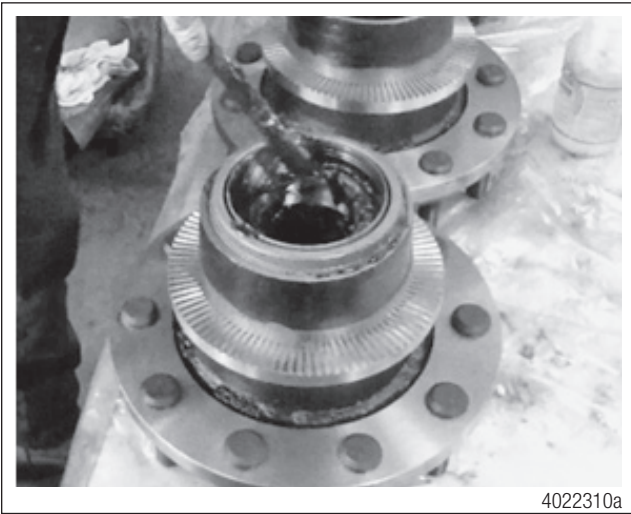

Figure 22
6. Apply more grease to the inner surfaces of the seal and the bearing cone. Figure 22.